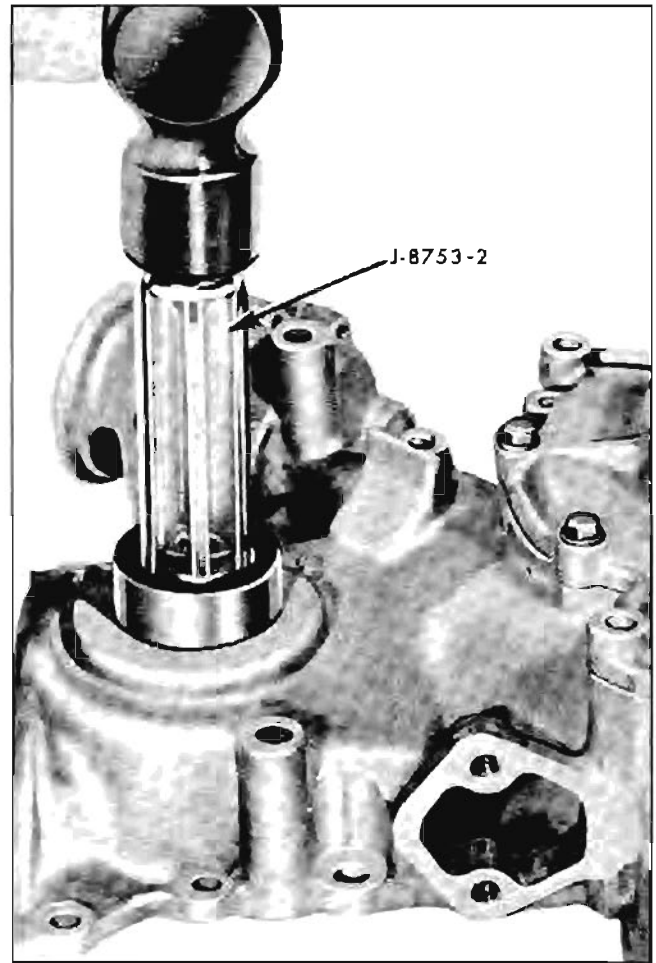

Fig. 6-100 Sizing Shedder
d. Size the packing by driving tool J-8753-2 through packing from front toward rear (see Fig. 6-100).